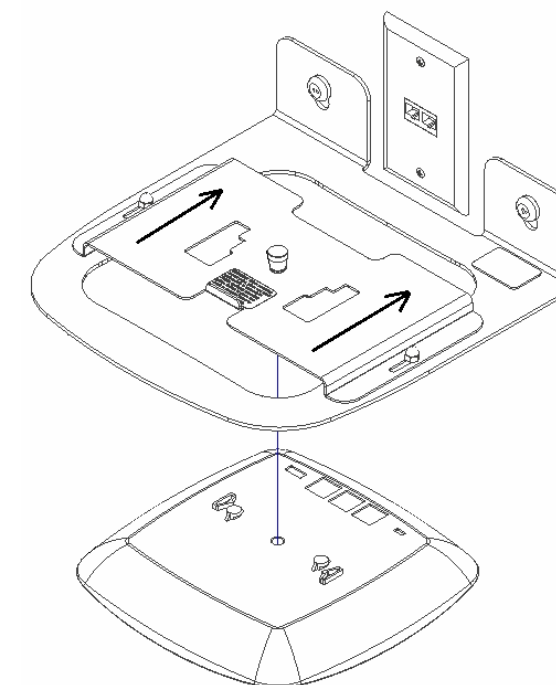

Figure 2
Step 5- After the mounting plate has been pushed towards the wall, use one hand to lift the AP225 access point into the opening with the Ethernet connectors facing towards the wall (Ref figure 2).